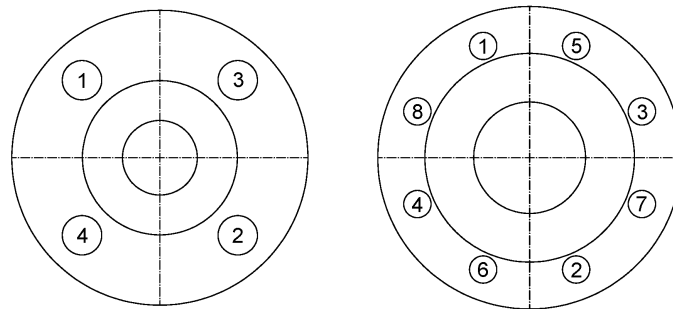

Figure 6 Flange Bolt Torquing Sequence
Figure 6 page 19 provides the recommended minimum stud bolt lengths for wafer-style meter body size and different flange ratings.
4. Place the remaining studs between the pipe flanges. Tighten the nuts in the sequence shown in Figure 6 Check for leaks after tightening the flange bolts.
3. Install bolts in both process connections. Tighten the nuts in the sequence shown in Figure 6. Check for leaks after tightening the flange bolts.